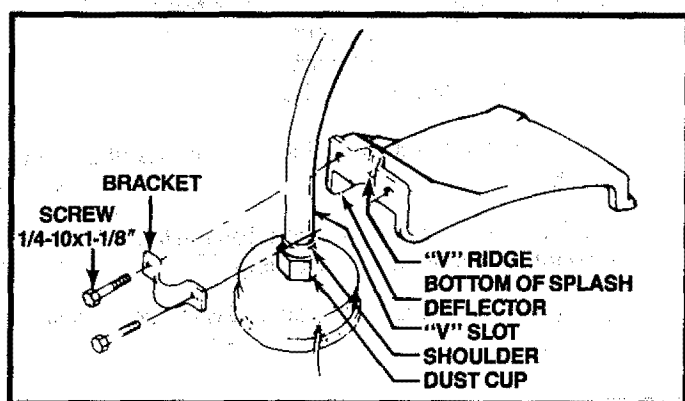

Figure 4
3. SPLASH DEFLECTOR — Figure 4
- Locate the raised "V" ridge on the splash deflector into the indented "V" slot on the drive shaft housing. Figure 4.
- Install the bracket and screws as shown in Figure 4.